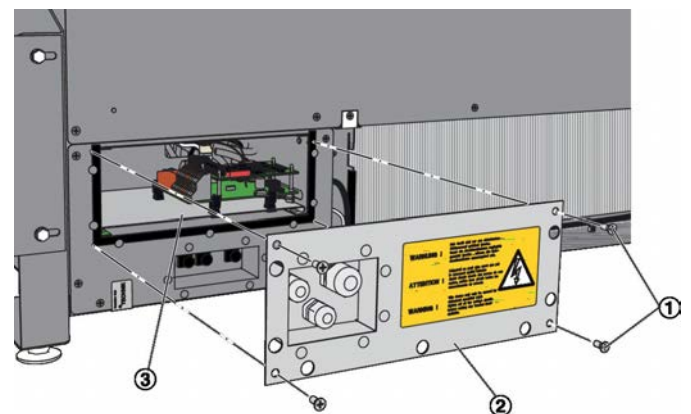

Fig. 5: Electrical connections
1. ▶ Take off the controls access panel (Fig. 5/2); to do so, loosen the Phillips screws (Fig. 5/1), then remove the panel. To make the connections, pull out the tray (Fig. 5/3).